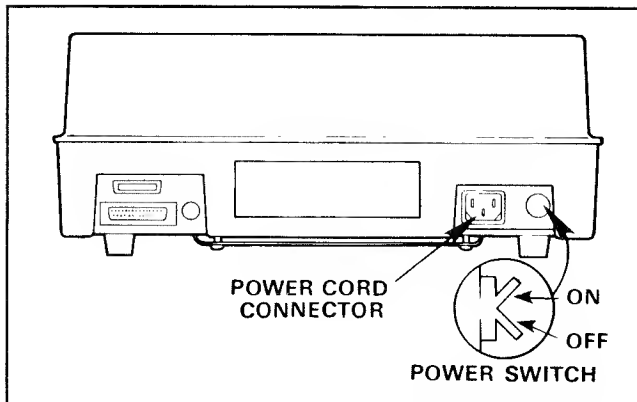

Figure 3-2. Programmer Power Switch Location
3. Flip the power switch up to the "ON" position (see figure 3-2).
3. Flip the power switch down to the "OFF" position (figure 3-2).